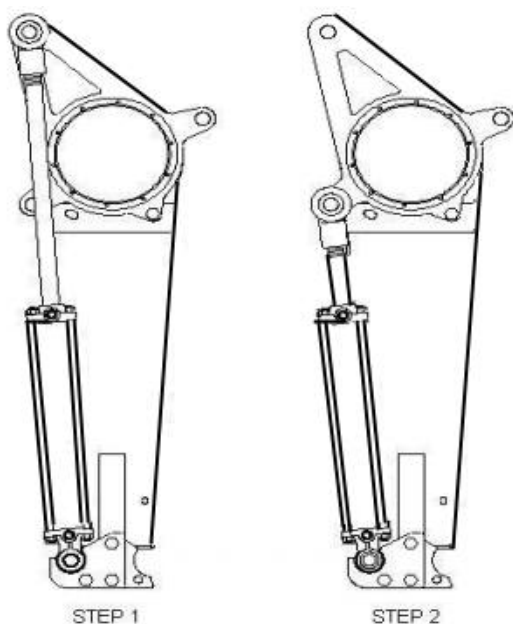

Figure 56 - Repositioning Unloading Auger.
STEP 1 – (See Figure 56.) Lift the unloading auger until the 5/8 inch hole in the lift lever is aligned with the 5/8 inch x 1 inch slot in the vertical cylinder mount arm. Lock the unloading auger into position with either a 5/8 inch bolt and nut or a 5/8 inch clevis pin.
STEP 2 – (See Figure 56.) Detach the rod end of the cylinder from the ball joint on the lift lever. Retract the cylinder until it is aligned with the cylinder re-positioning hole and re-attach. Remove the locking bolt and/or pin from the 5/8 inch hole.